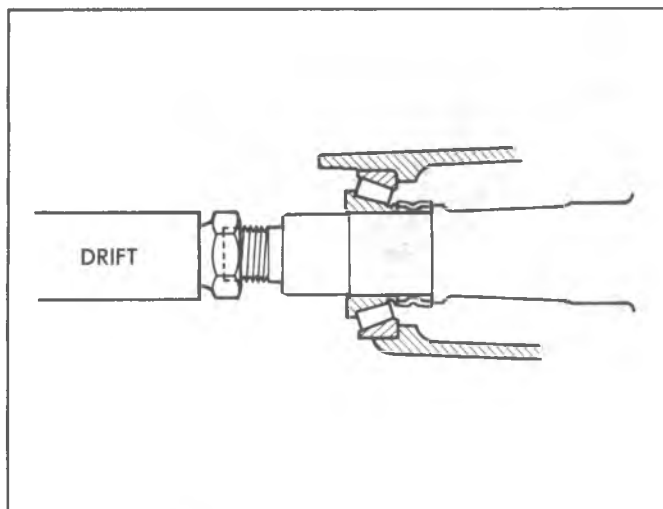

Fig. 16B--Removing Drive Pinion
8. Tap the end of the pinion nut with a large hammer and a soft drift, as shown in figure 16B.